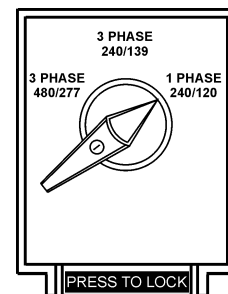

Figure 46. Voltage Selection Switch
5. Place the voltage selector switch in the desired voltage position (Figure 46).